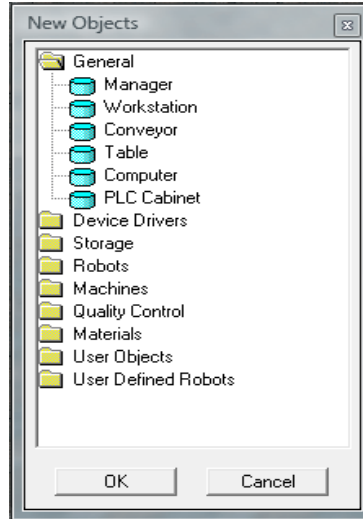

Figure 106: New Objects Dialog Box
1. Select Edit | New Object. The **New Objects** dialog box is displayed as shown Figure 106: New Objects Dialog Box.
1. Select **Edit | New Object**. The New Objects dialog box is displayed as shown in Figure 106: New Objects Dialog Box.
1. Select **Edit | New Object**. The New Objects dialog box is displayed, as shown in Figure 106: New Objects Dialog Box.